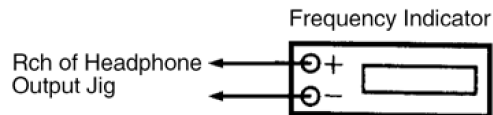

Fig. 10
1. Connect a frequency indicator. (Fig. 10)